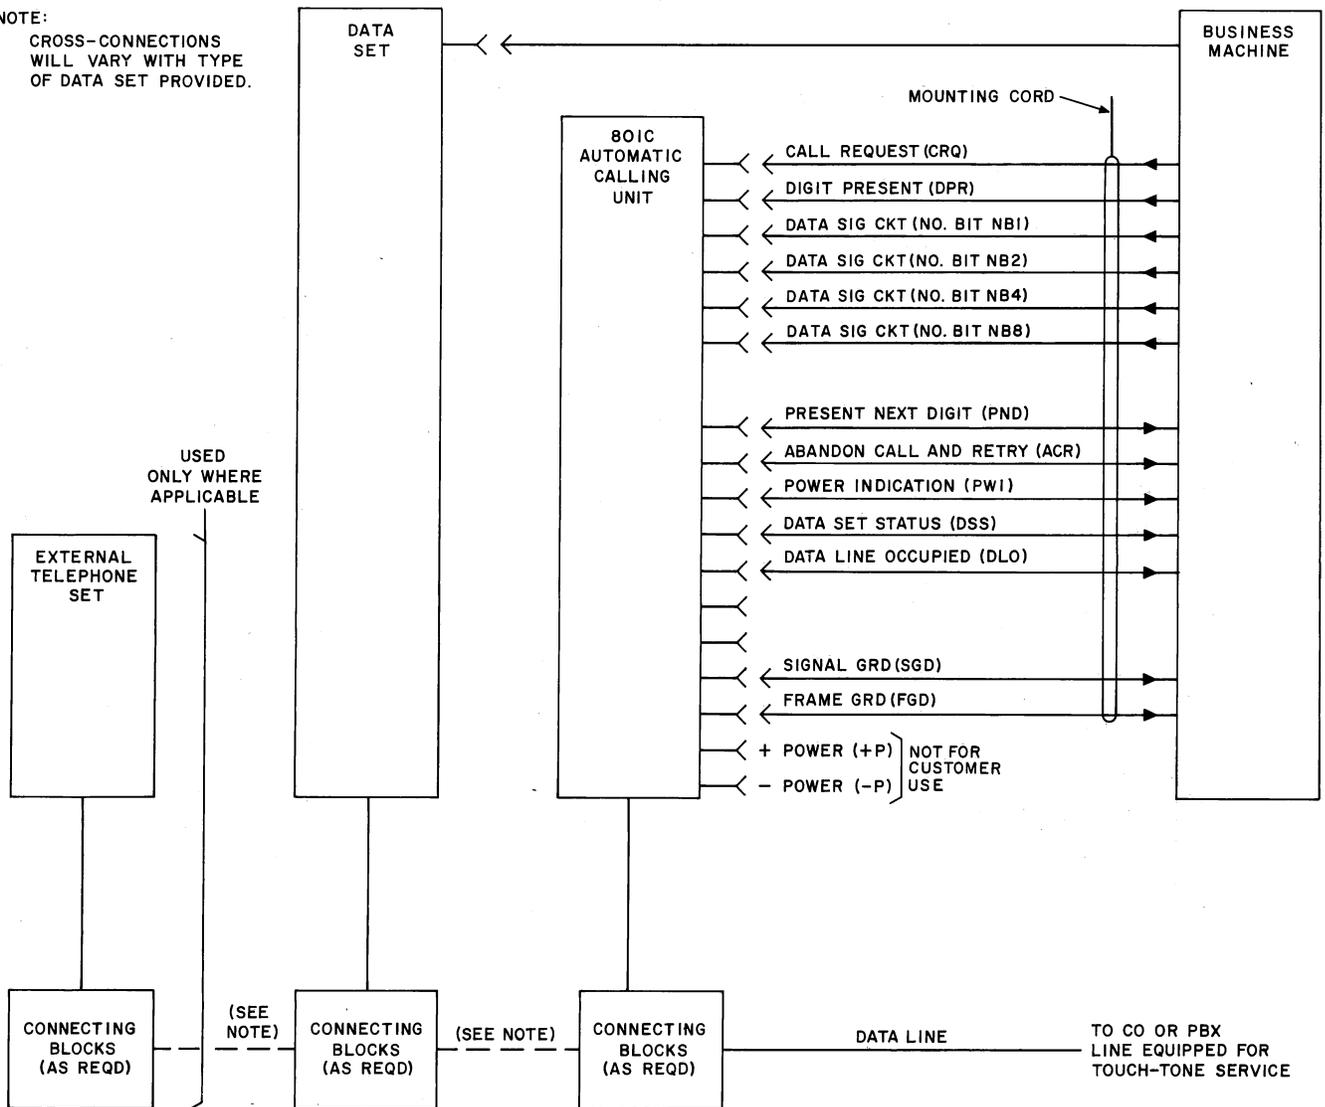
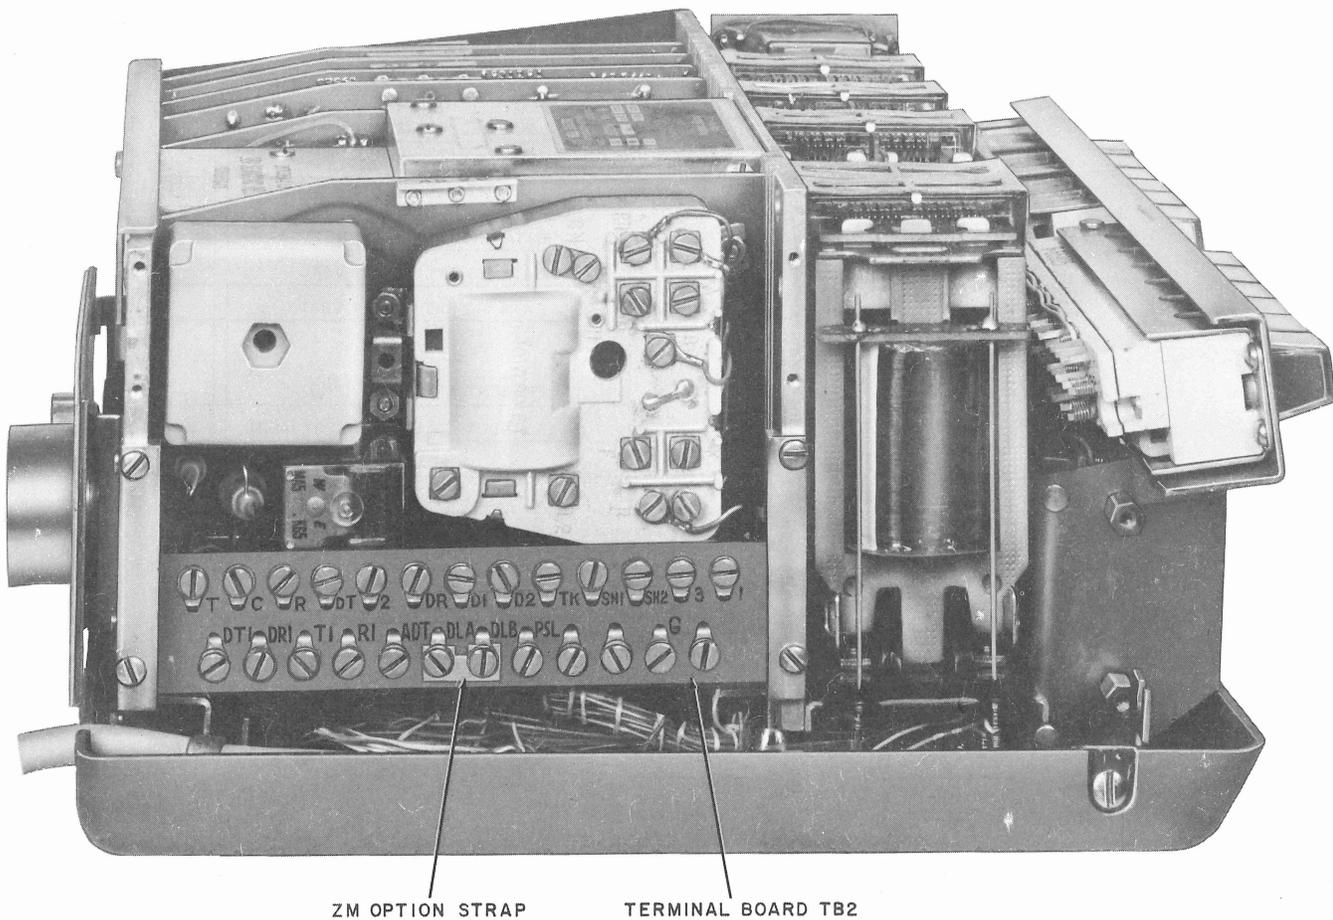

Fig. 2—Data Auxiliary Set 801C3 and 801C4—Typical Interconnecting Block Diagram
Fig. 3—Data Auxiliary Set 801C3 or 801C4—Covers Removed Showing the Location of Terminal Board TB 2
3.01 The ACU is connected directly to the telephone line, the data set, and the business machine. The connection to the business machine is provided by the customer-furnished mounting cord. These connections and the conductor designations are shown in Fig. 2. The connections to the data set and telephone are provided by an M14C or D10P cord supplied with the ACU. Table D shows the cord connections to the ACU terminal board (TB) 2 (See Fig. 3).